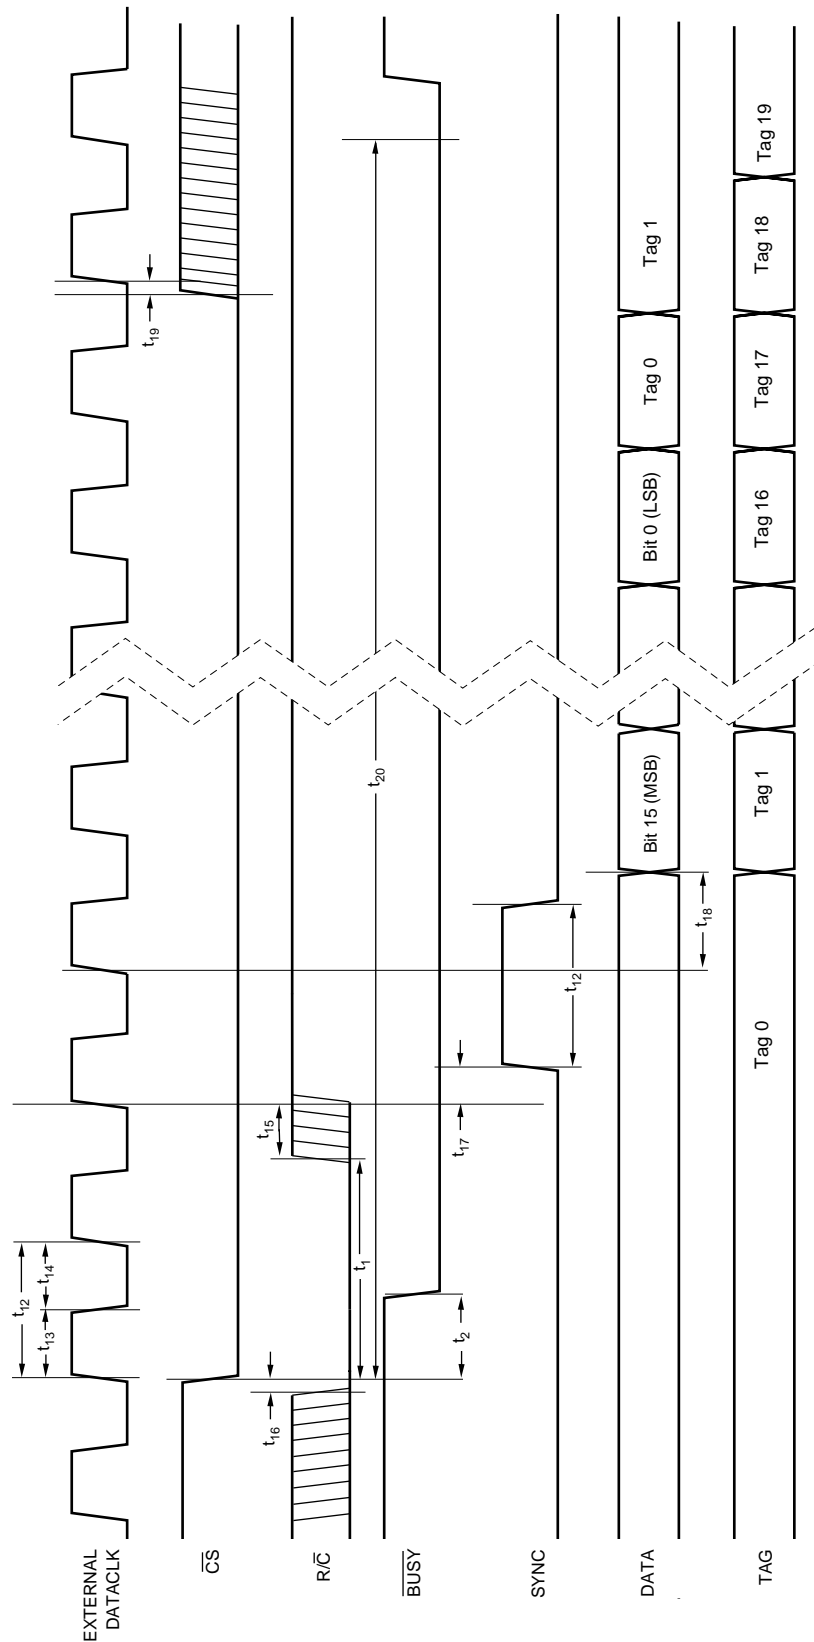

FIGURE 3b. Conversion and Read Timing with External Clock. (EXT/ \overline{INT} Tied High.) Read During Conversion (Previous Conversion Results).
NOTE: (1) See Figure 3b for constraints on previous data valid during conversion.